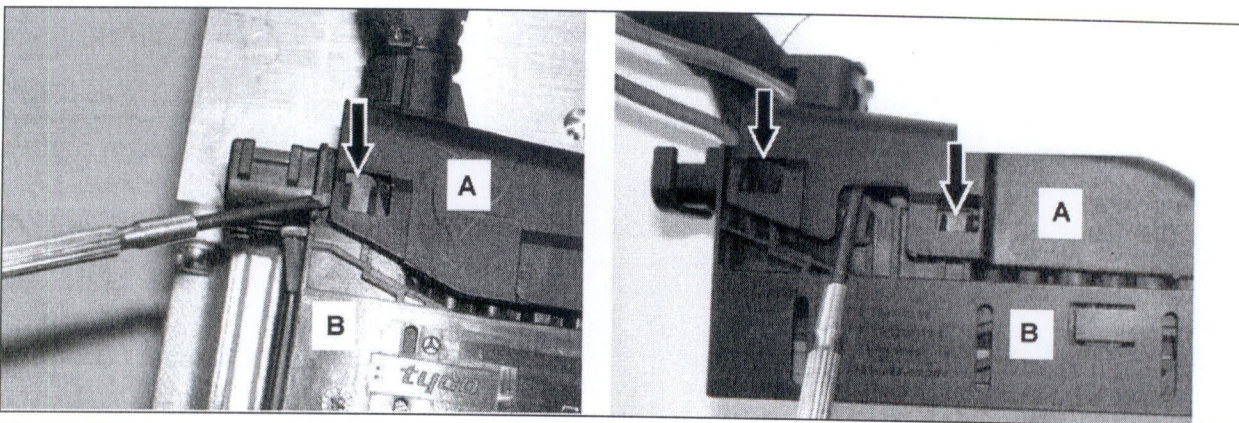

Figure 13
19. Reinstall the SBC wire harness connector cover (A, Figure 13) in reverse order.